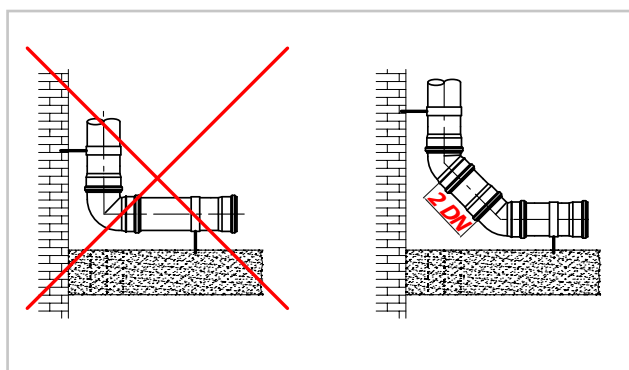

Fig. 3 Change of riser pipe direction
- the transition of riser pipe to horizontal section or changing direction shall be made using 2 bends, maximum 45° , and between them apply stabilization section with the length of $2 \times \text{DN}$ (with the riser pipe heights exceeding 10 m it's necessary) - Fig. 3,